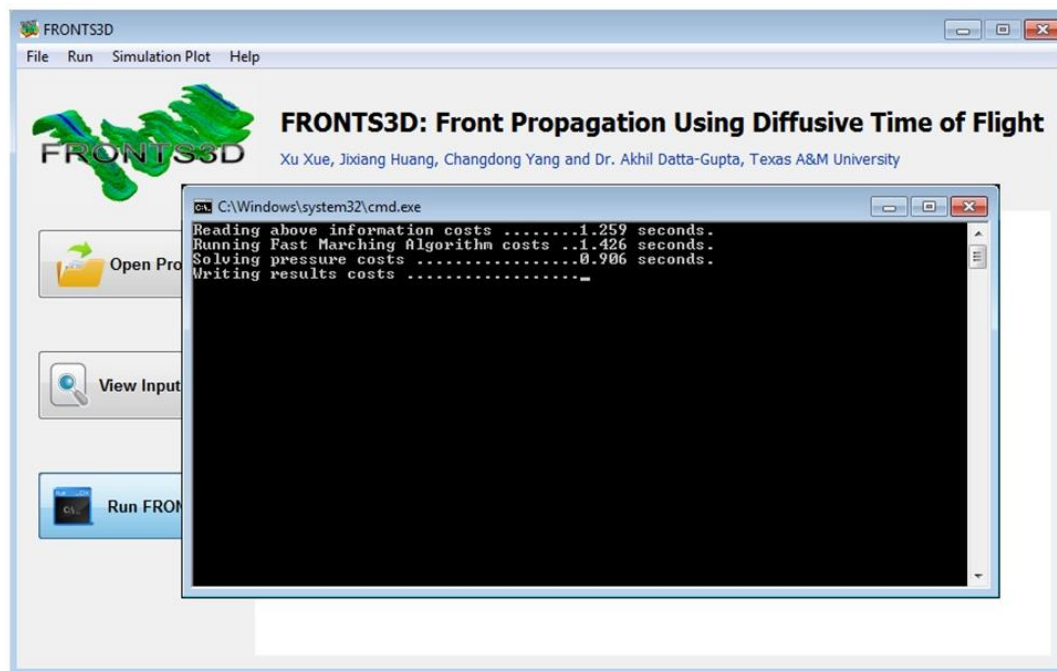

Figure 6. Simulation is in Progress
5. Once modifications are complete (modified files need to be saved), the project is ready to be executed. For execution, click Run FRONTS3D button on the main screen or click Run → Run F3D (or Run F3D Parallel with two running simulations). A DOS window will appear indicating progress of the simulation. **(Figure 6)**. After successful completion of the execution, the DOS window will close with a message ‘Simulation Complete’.